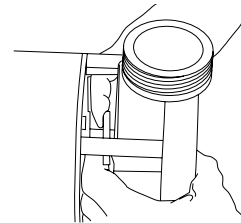

Figure 7
- Screw impeller onto shaft until it seats against shaft shoulder. Work slinger over end of impeller sleeve so it rides on sleeve (Figure 7).